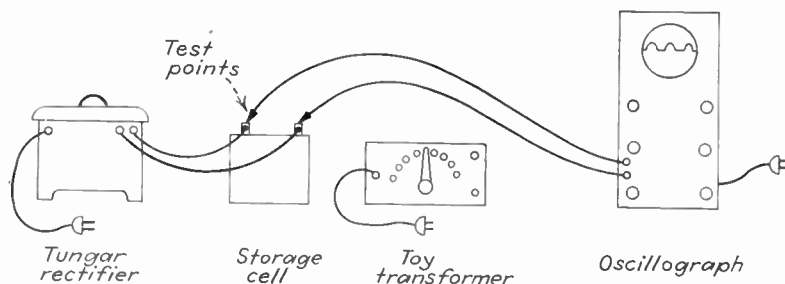

FIG. 34. A pulsating direct current.
Step 2. Connect a tungar bulb to a battery cell as shown in Fig. 34. Plug in the cord from the rectifier.